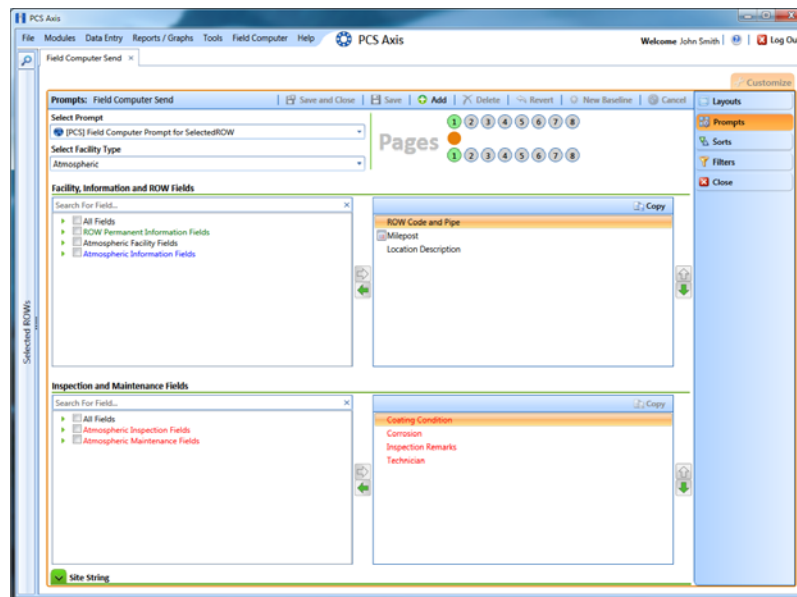

Figure 7-19. Prompts
- 4 Click the **Customize** tab , then the **Prompts** button  to open the *Prompts* page (Figure 7-19).